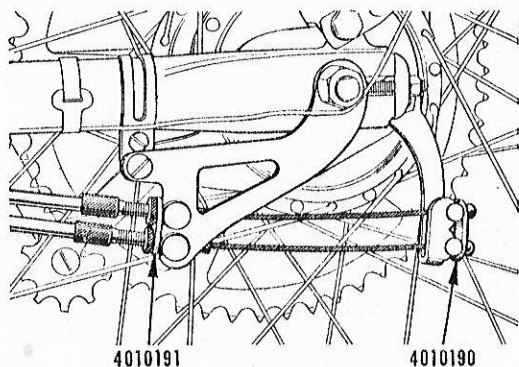

FIG. 4. Rear brake plate conversion with two cables.
13. Remove the nearside rear spindle nut and washer, and also the lower torque arm clip bolt. Fit the new dual brake anchor plate (4010153) over the rear spindle and lock with the spindle nut, (the plain washer is not now required) and replace the torque arm clip bolt (See Fig. 4).